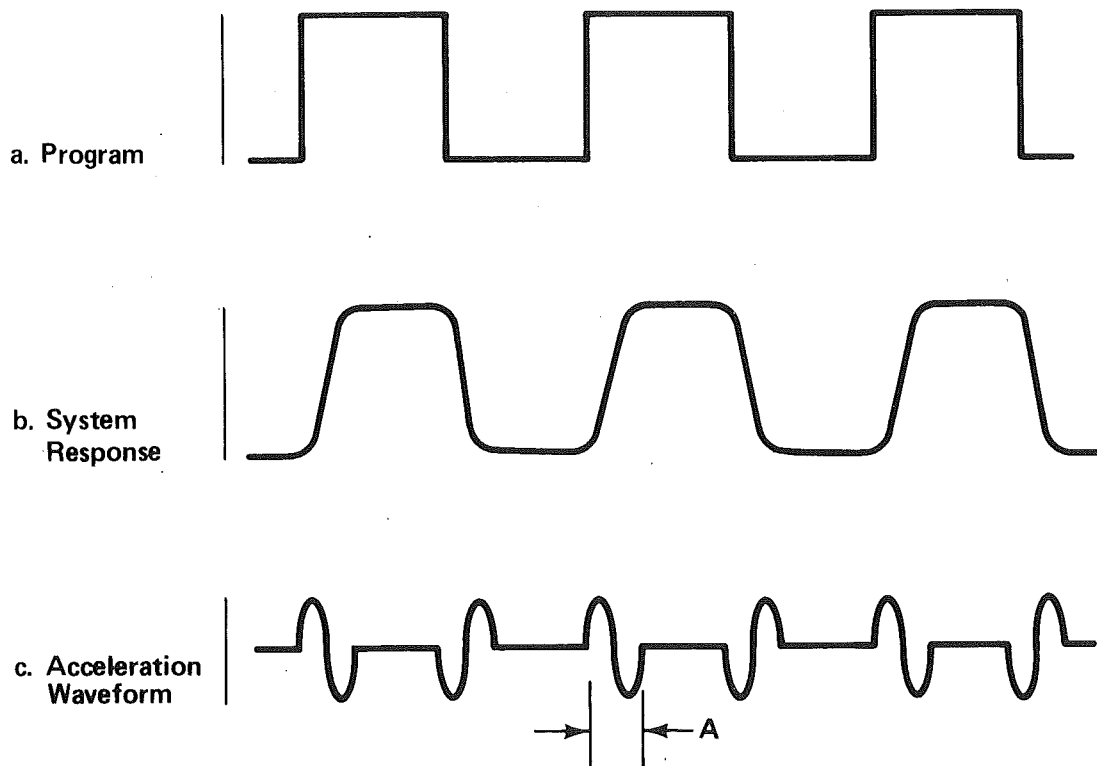
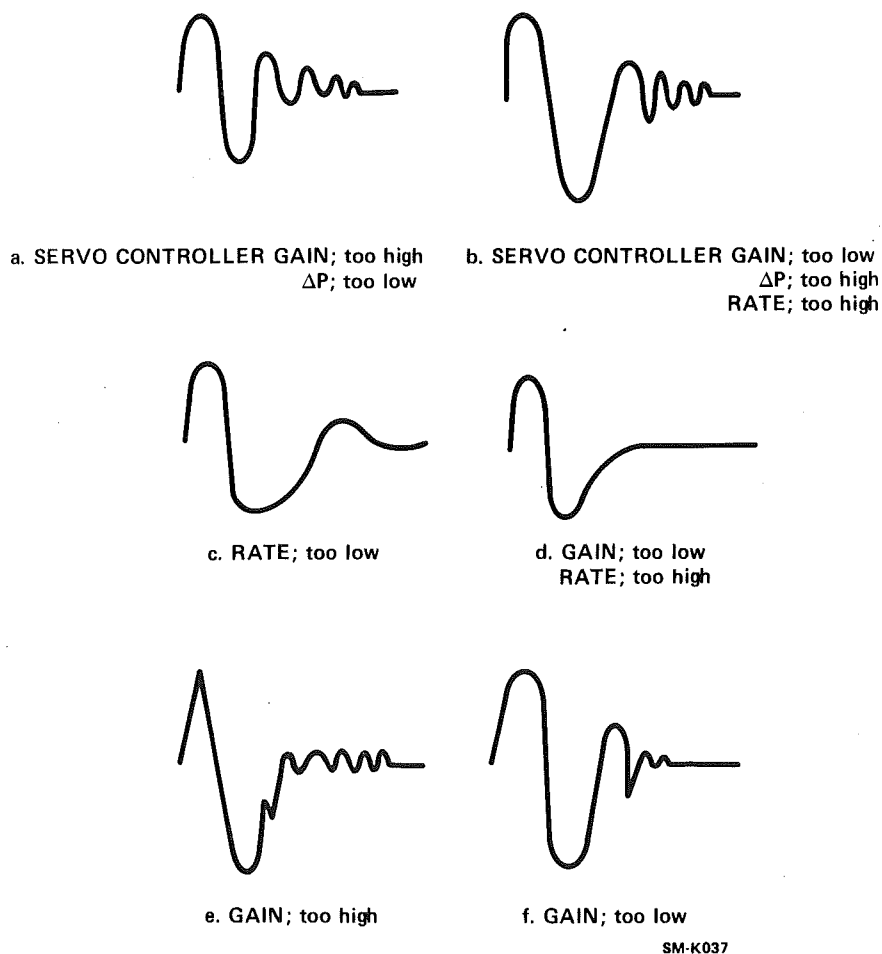

Figure 2-12. Desired Acceleration
Figure 2-13. Indications and Misadjustment Controls
9. Apply a low-frequency (1 to 2 Hz), low-amplitude square wave to the system. The amplitude should be selected so that the dc error signal becomes saturated. Acceleration should appear to be approximately one full cycle as shown in call-out A of figure 2-12.
10. Using the oscilloscope, monitor the output of the accelerometer conditioner to be used for control. Figure 2-12 shows a typical acceleration waveform with respect to the square wave program. Under optimum conditions a symmetrical sine wave should occur with each edge of the square wave.
11. Sequentially adjust the SERVO CONTROLLER GAIN, RATE, and  $\Delta P$  controls on the 406.11 Controller front panel, and the GAIN control on the Option D Valve Controller module to achieve an acceleration waveform as shown in figure 2-12. Figure 2-13 shows what the acceleration waveform may look like if these controls are not properly adjusted.